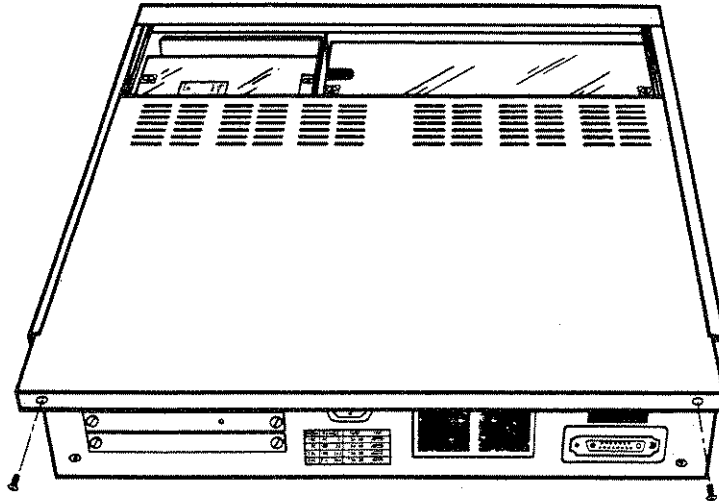

Figure 7-27. Replacing the Top Cover
STEP 4. Slide the top cover back in place and secure it with the two screws that originally held it. Refer to Figure 7-27.